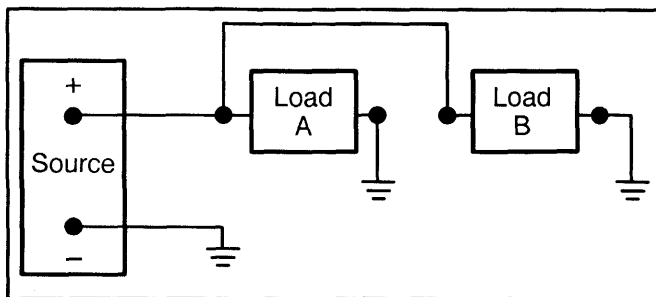

Figure 13 — Parallel Circuit
**PARALLEL CIRCUITS (Figure 13)** – In a parallel circuit, the electrical devices are connected to form more than one current path to and from the power source. In a parallel circuit the voltage is constant and equal for each current path.